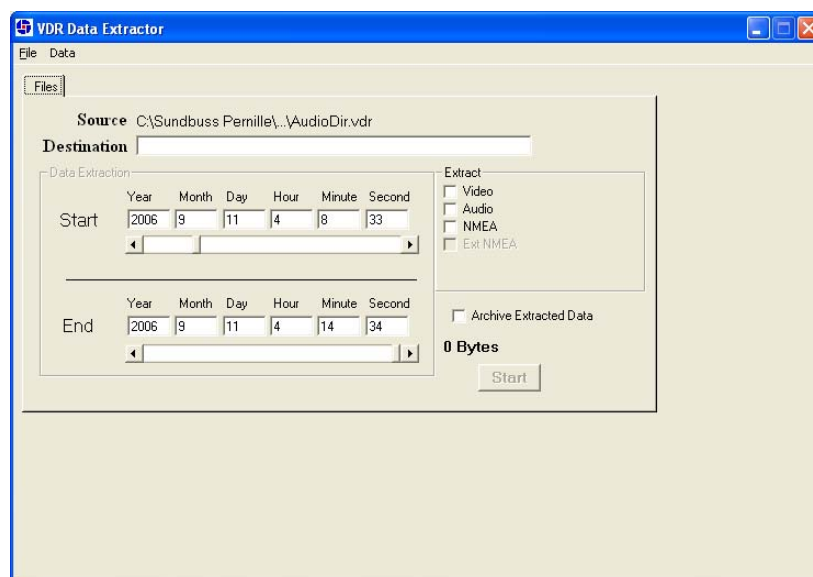

Figure 6-29 – Data Extraction Window
2. The Data Extraction window will open (see *Figure 6.29 – Data Extraction Window* below). This may take a number of seconds. The start time will automatically appear as the point in the playback where the Data Extraction window was opened.